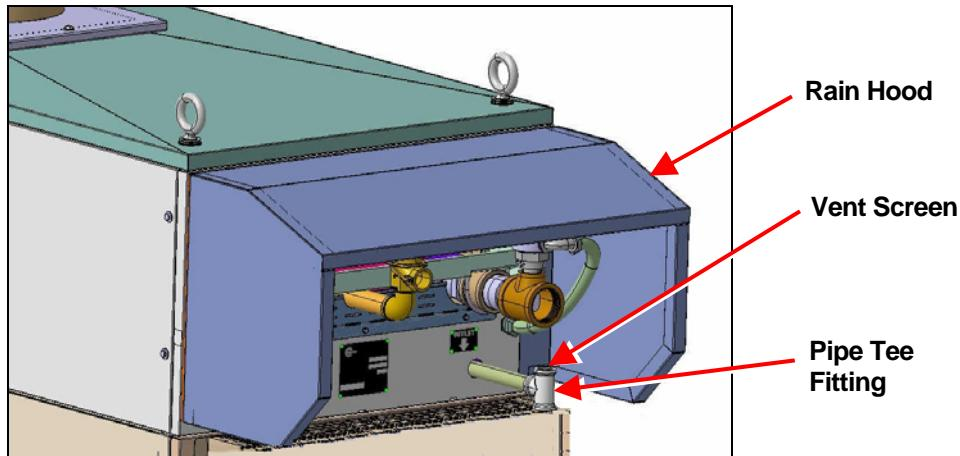

Figure 4. HRM Rain Hood
5. For ICHP Systems Only: Loosen the mounting screws for the rain hood at the back of the Heat Recovery Module (HRM), and lift the rain hood off of the HRM. Also, remove the pipe Tee fitting together with the vent screen and set aside (see Figure 4).